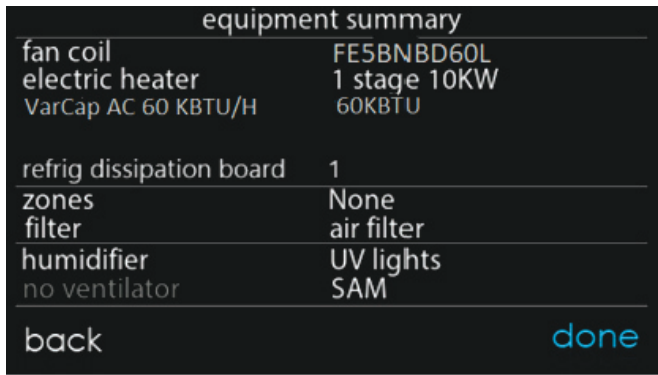

Fig. 12 – Equipment Summary Screen
4. The Infinity® System Control will advance through the remaining learning processes including the setup of accessories such as filter type, UV light, and humidifier. Upon completion of the setup screens, the equipment summary screen will be presented (Fig. 12). Verify the correct equipment is shown on this screen. Next an airflow verification test is executed before returning to the main screen.